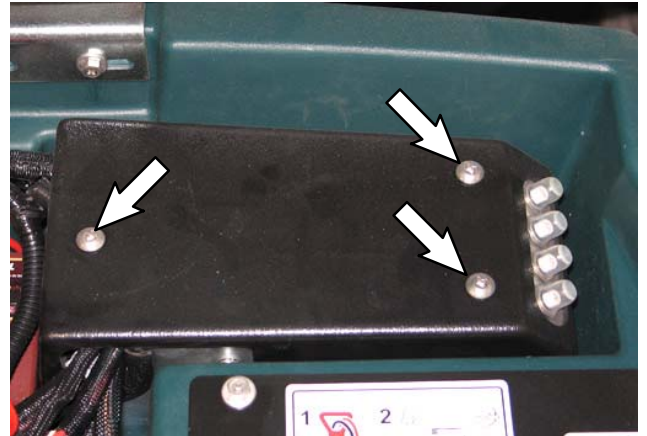

FIG. 1
2. Remove cover from circuit breaker box (FIG. 1).